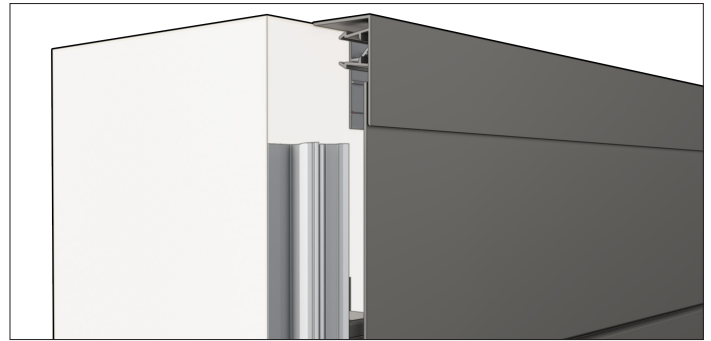

Figure 21.3
27. The last Plank at the top of the wall will be held in place by the top cap, no Plank Clips are necessary. (Figure 21.3)